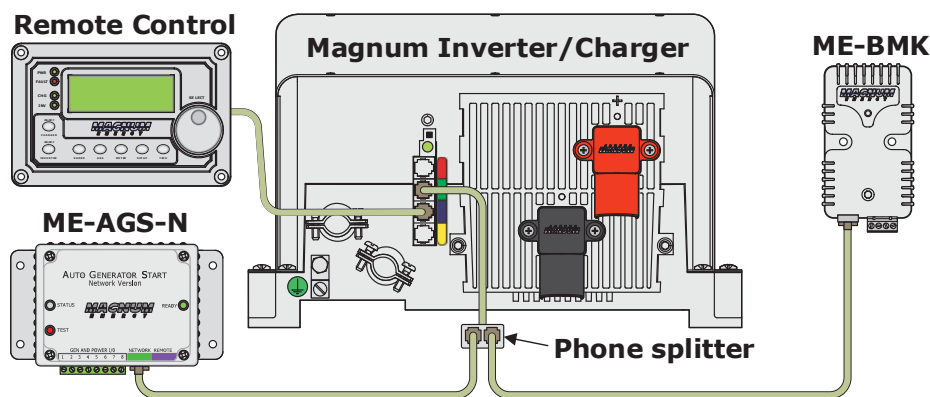

Figure 2-7, Multiple Network Devices – Star Configuration
- **Star Configuration** – All the network devices connect to the inverter's Network port via a phone splitter—using individual cable runs (Figure 2-7). Since each device is independently connected to the inverter's MagNet or Network port, problems in a cable or a device can be easily isolated; and, if there is a cable failure to one device it does not bring down all the devices.